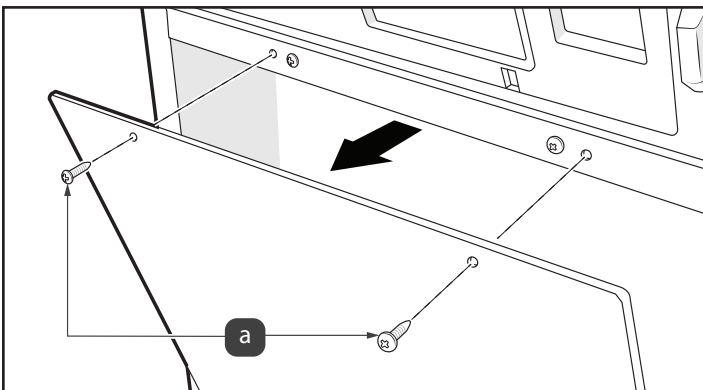

Figure 2. Remove Dead Front Screws
2. Remove 2 retaining screws on top of the High Voltage cover panel, see Figure 2(a).